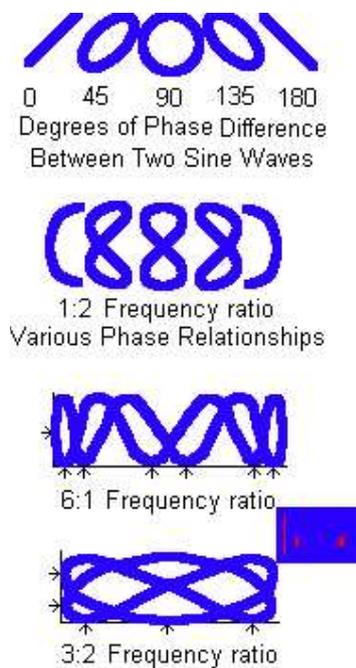

FIGURE 12
Some typical results are shown in Fig 12.
4. The resulting pattern, a Lissajous figure, shows the ratio between the two frequencies. Some typical results are shown in Fig 12.